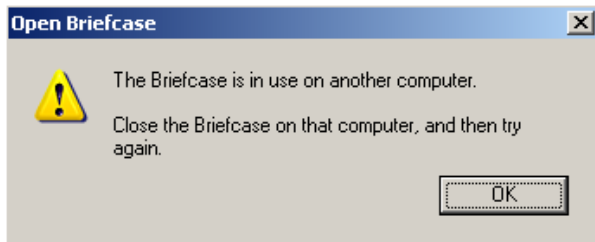

Figure 13-2: Open Briefcase
- ♪ Sometimes *Windows* thinks that you have a file open if the *Explorer* window has a folder open in the *Briefcase*. To avoid this, simply close the *Explorer* window or click on another folder. Figure 13-2 is a typical message you will see if you are accessing the briefcase through *Windows Explorer*.